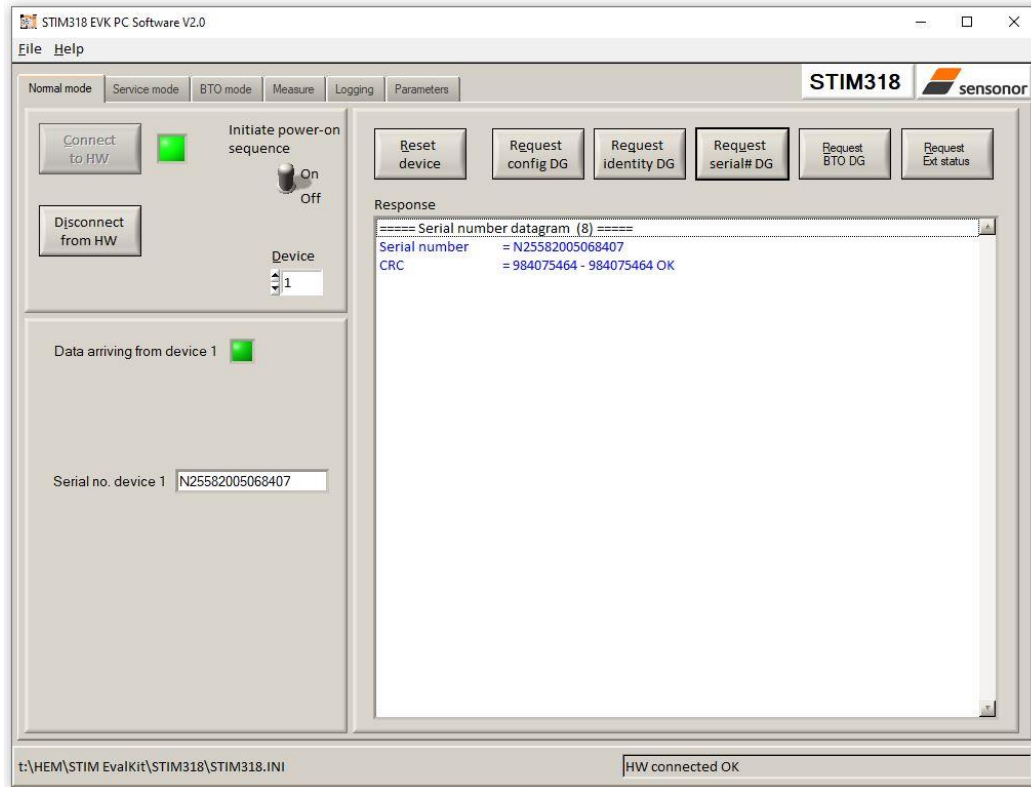

Figure 16: Result of sending 'Request serial# DG' to the IMU
- A green LED (Data arriving from device n) indicates that data is received from the IMU(s). Verify the communication to module by clicking on the 'Request serial# DG' button. An example of such a result is shown in Figure 16. The system is now ready for use.